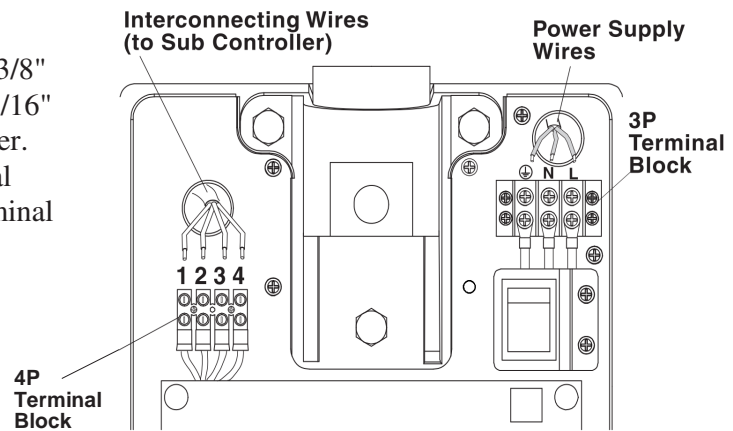

Fig.3-4 Wires Connection in Main Controller
3. Cut the wires to workable length and strip 3/8" of insulation for power supply wires and 3/16" for interconnecting wires for Sub Controller. Connect power supply wires to 3P terminal block and interconnecting wires to 4P terminal block. (Fig.3-4)